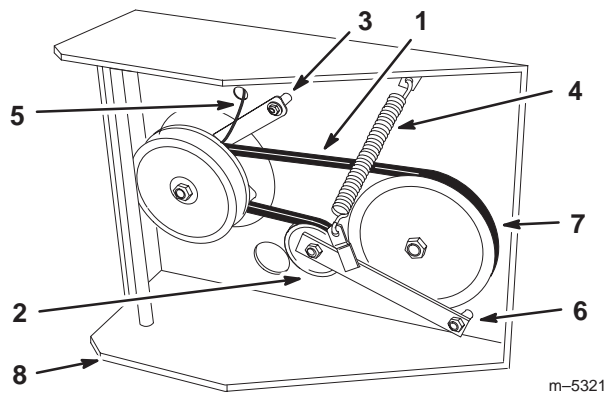

Figure 64
6. Disconnect clutch retainer from the engine deck (Fig. 64).
7. Unhook tension spring from side of frame (Fig. 64).
10. Torque pivot bolt to 35-40 ft-lb (47-54 N•m). Install tension spring between idler arm and frame bracket (Fig. 64).
11. Install clutch retainer to the engine deck (Fig. 64).